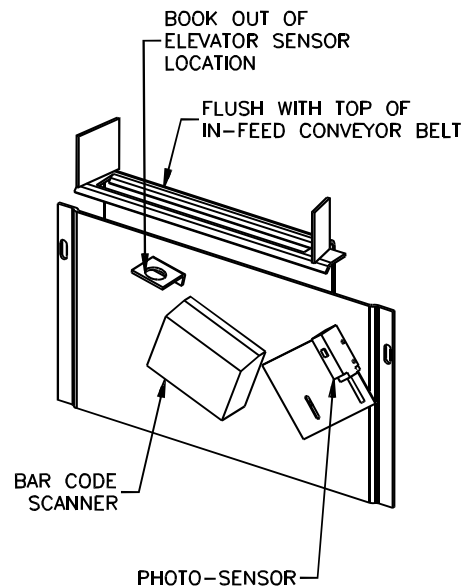

Figure 2-7. Scanner Bracket Installation
2. Remove the lower front door of the trimmer and locate the loose photoelectric sensor. Remove the nuts from the sensor and push the sensor through the split cap bushing in the left side of the trimmer's base. Attach the sensor as shown in Figure 2-7. Attach the optional bar code scanner and sensor if applicable.